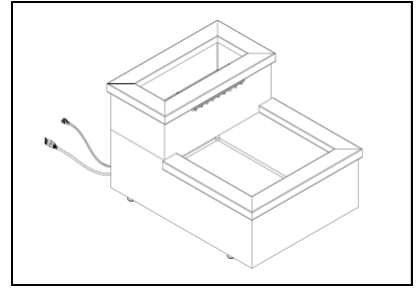

Fig. 13
13. Route the cord of the pump and Illumifalls through the back rattan between the liner and the inside wall of the rattan. Fig. 13